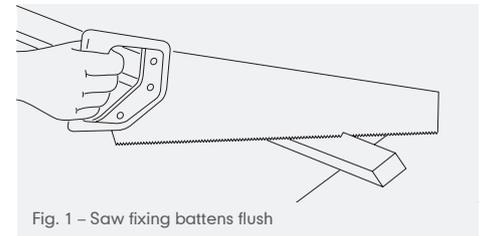

Fig. 1 – Saw fixing battens flush
- 2 Saw ends of tiling battens off flush with gable wall or bargeboard and coat the cut ends with a suitable timber treatment (Fig. 1). nail within a maximum of 500mm from end.